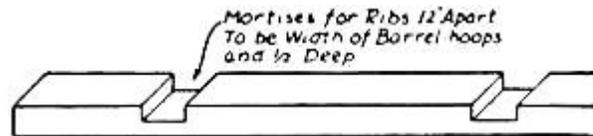

FIG. 203.—The Keelson.
**The Keelson.**—Square off the ends so that it is exactly eight feet long, and then, commencing six inches from one end, lay off mortises for the ribs (see Fig. 203). These mortises should be cut half an inch deep and the width of the barrel-hoops, and their centres should be spaced twelve inches apart.